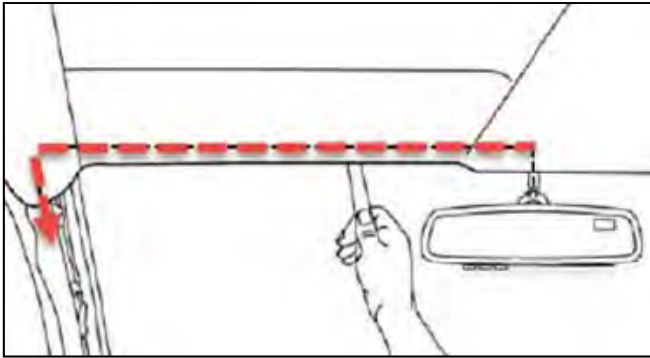

Figure 11
11. Route mirror main power harness along front edge of headliner towards the LH vehicle A-Pillar. See figure 11.